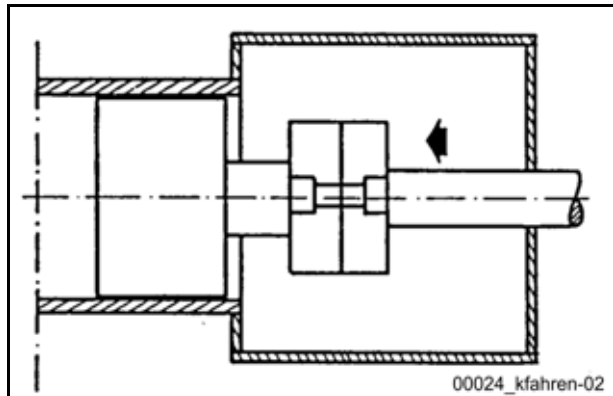

Fig. 361 Retract pumping piston
- Move the pumping piston into the cylinder far enough that the screw connection can still be loosened (**Fig. 361**).